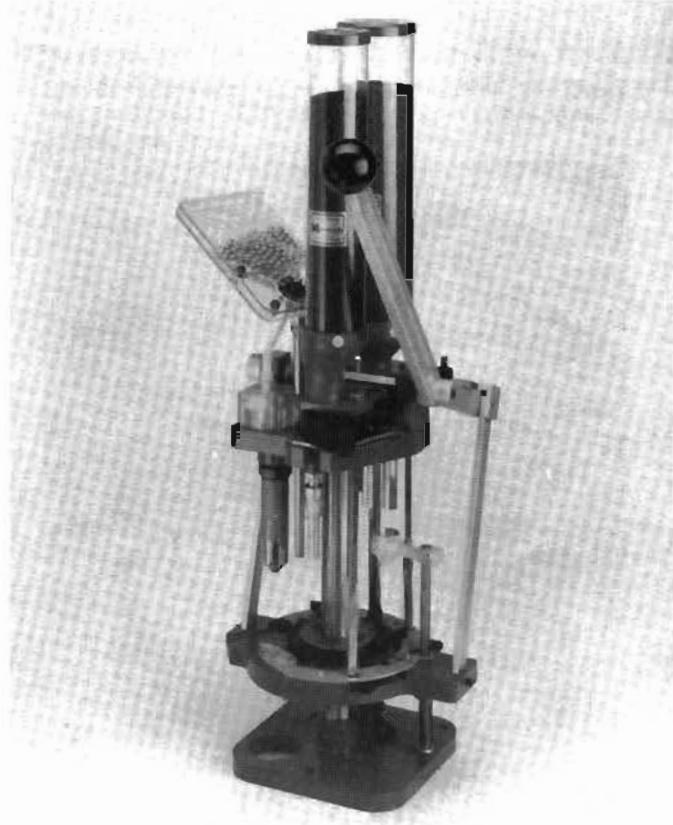

Fig. 68
**Figure 68** - The Apex Automatic is the most advanced loader in its class available. It lets you reload shells by simply inserting a case and wad then pulling the handle. The automatic features do the rest. The Apex Automatic will seat primers, drop powder and shot, crimp the shells, and guide the cases through all the stations automatically.